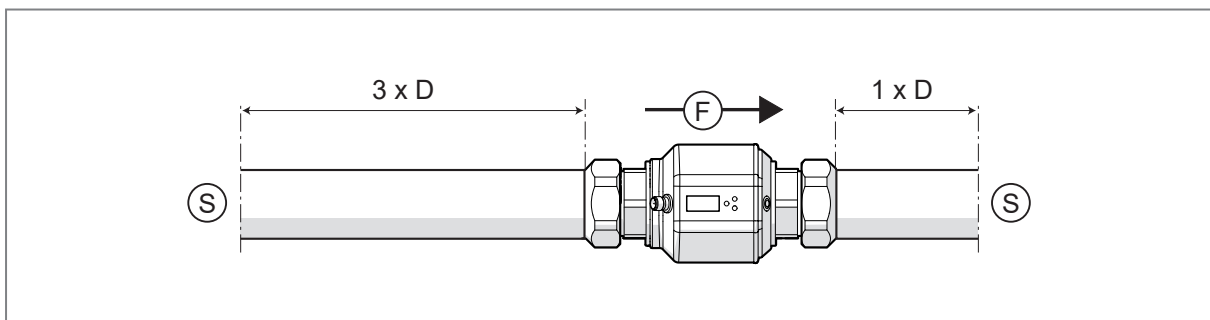

Fig. 2: Inlet and outlet pipe lengths
- ▶ Install in front of or in a rising pipe (figures 2 and 3).